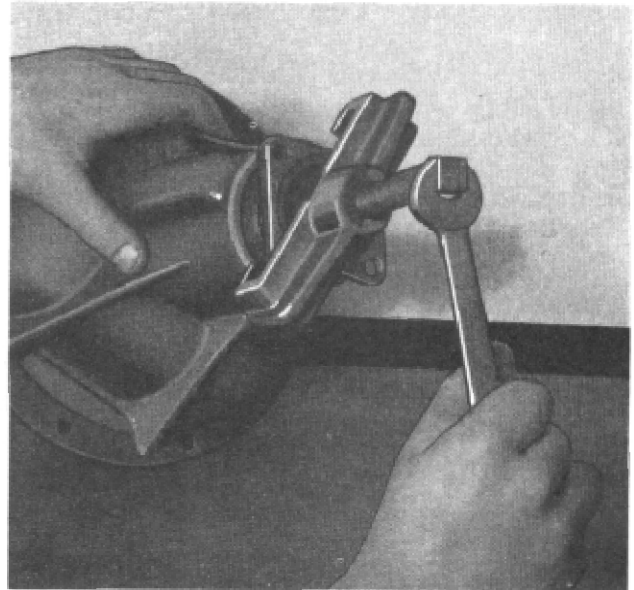

Figure 6
(22) Remove pinion shaft companion flange (31), using flange puller J-456 (Fig. 6). This will allow removal of pinion (6), bearing spacer (28) and shims from the carrier.